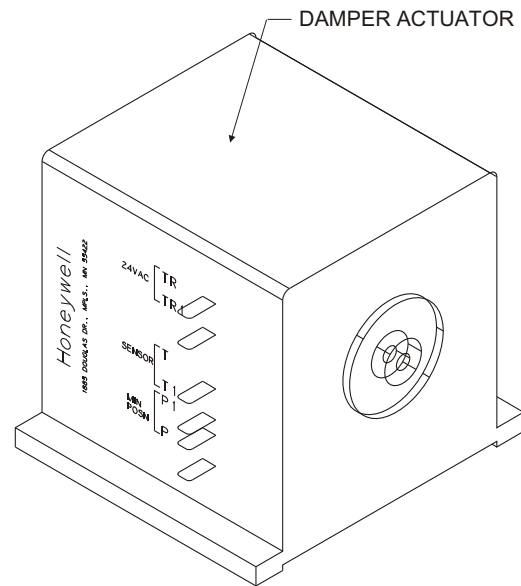

FIGURE 7
4. Install jumper on damper motor terminals T and T1. **See Figure 7.**